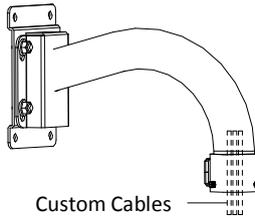
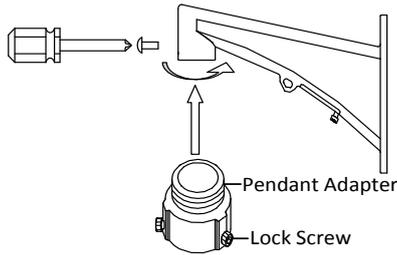
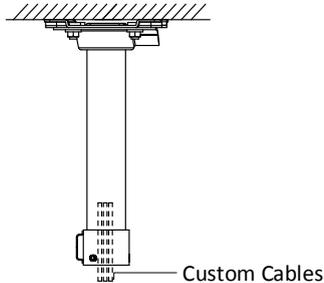

Figure 2-17 Getting the Cables through the Bracket
Figure 2-21 Pendant Adapter
Figure 2-32 Fix the Bracket
- 2) Make sure the cables getting through the bracket, as shown in Figure 2-17.
- The bracket in Figure 2-17 is the recommended bracket for this series of speed dome, and a pendent adapter is required if any other bracket is selected. See Figure 2-21.
- The bracket in Figure 2-32 is the recommended bracket for this series of speed dome, and a pendent adapter is required if any other bracket is selected. See Figure 2-21.